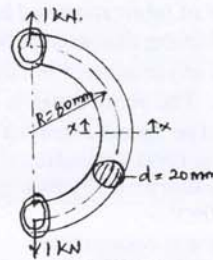

Fig.Q1(b)
- b. A curved link mechanism made from a round steel bar is shown in Fig.Q1(b). The material for the link is plain carbon steel 30C₈ with an allowable yield strength of 400 MPa. Determine the factor of safety. **(10 Marks)**